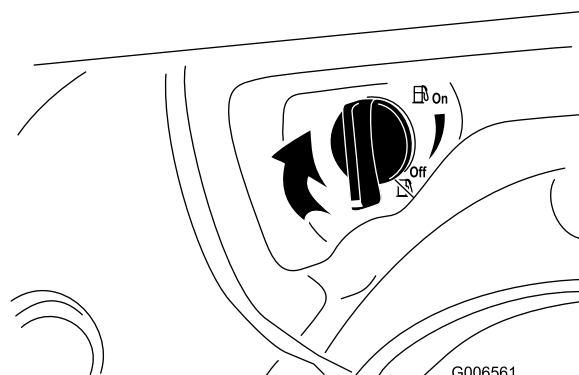

Figure 27
4. Close the fuel shutoff valve by rotating it clockwise (Figure 27).